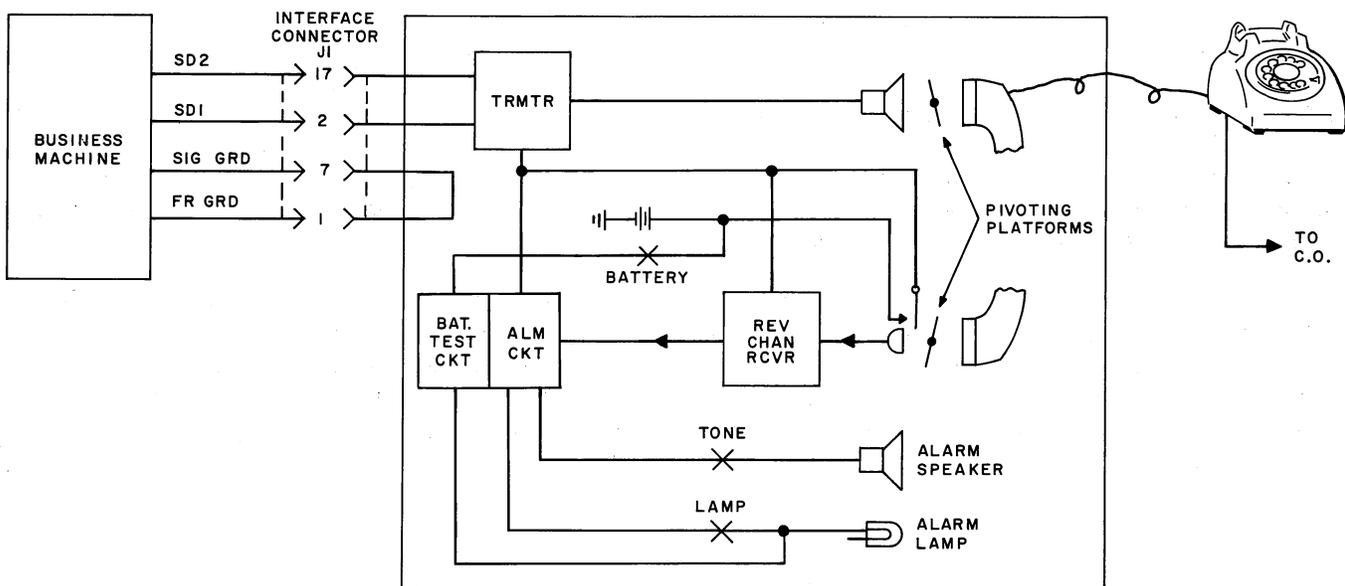

Fig. 5—Data Set 603D, Block Diagram
2.04 A block diagram illustrating the operation of the Data Set 603D is shown in Fig. 5. The business machine is connected to the data set through interface connector J1. The analog voltage signal from the business machine is applied to the transmitter section. Components within the transmitter use the input signal to generate a